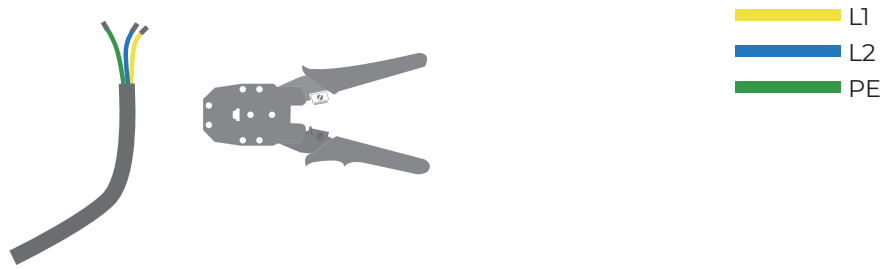

Fig. 5.6.7
7. Crimp the service wiring with the crimping plier (See Fig.5.6.7)